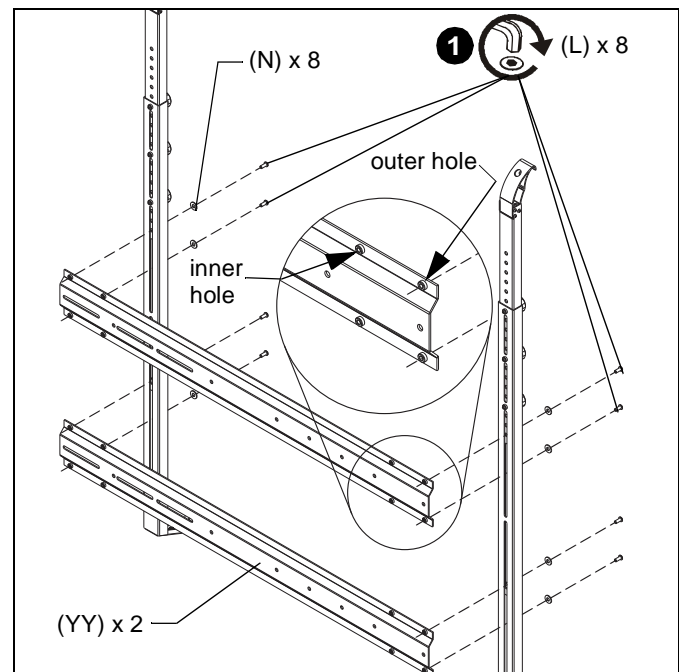

Figure 5
1. Loosely assemble the cross brackets (YY) to the upright legs using eight 1/4-20 x 5/8" button head cap screws (L) and 1/4" washers (N) through the uprights and into either the inner or outer set of mounting holes in the cross brackets. (See Figure 5)
NOTE: Additional lateral shift is available when using the inner holes on cross brackets. (See Figure 5)